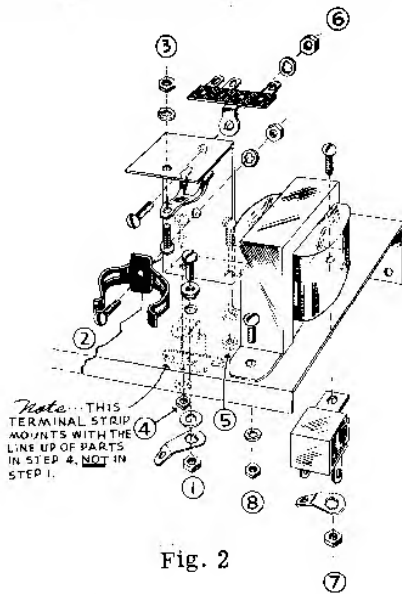

Fig. 2
Next consult Figure 2 very carefully and note the numbers 1 through 8. If all parts of each step are mounted in sequence, the assembly will go together easily and no parts will interfere with the mounting of parts which follow.
- ( ) Step 7. The power transformer is next. First pass the two red and the two yellow leads through grommet B, and leave the two black leads above the chassis. In location A, (see Figures 2 and 3) pass a 6-32 screw through the transformer flange and chassis, and fasten the rectifier to the chassis with a solder lug and nut. Be sure the rectifier is oriented as shown and is not turned around.